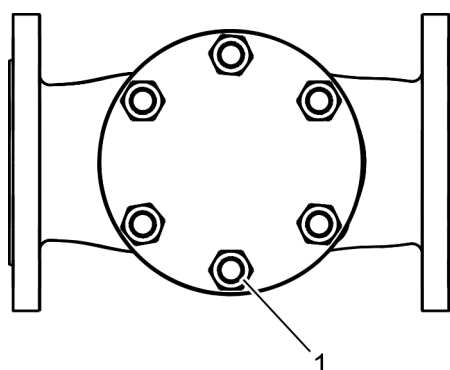

Fig. 11: Tightening nuts in a cross pattern (number of nuts/stud bolts can vary)
10. ➔ Screw nuts (Fig. 11/1) loosely onto the stud bolts of the body.
Tighten the nuts (Fig. 11/1) crosswise with the prescribed tightening torque.